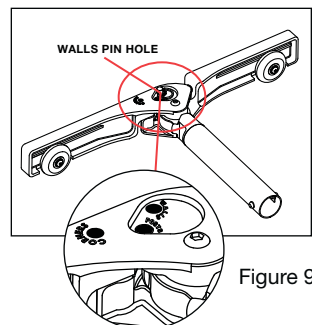

Figure 9
- A. For normal stretching, the tail block should stay flat against the wall, and the tube should pivot freely to permit angle stretching. Remove the lock pin, extend the legs into a flat orientation and insert the pin into the back hole marked "WALLS". (See figure 9.)